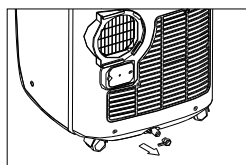

Fig.24
- When the water level of the bottom tray reaches a predetermined level, the unit beeps 8 times, the digital display area shows "P1". At this time the air conditioning/dehumidification process will immediately stop. However, the fan motor will continue to operate(this is normal). Carefully move the unit to a drain location, remove the bottom drain plug and let the water drain away(Fig.24). Restart the machine until the "P1" symbol disappears. If the error repeats, call for service.
- Remove the plug from the bottom drain outlet, all the water in the bottom tray will drain out (See Fig.24).